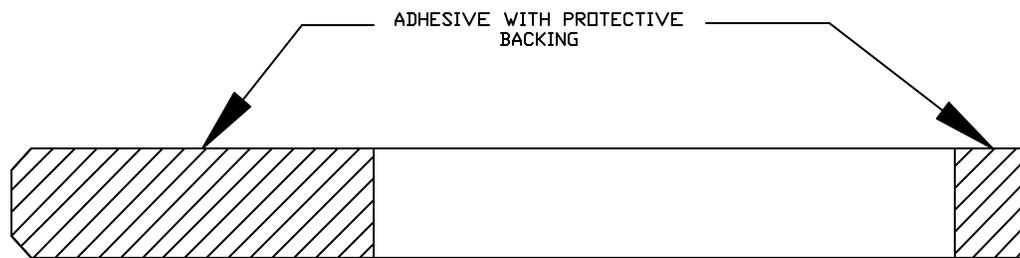

Figure 1: Band Before Assembly
1. Carefully remove the protective backing on the smaller adhesive area of the band. See Figure 1. Avoid contaminating the exposed adhesive. For example, do not let the adhesive contact dirt or allow your fingers to touch the adhesive.